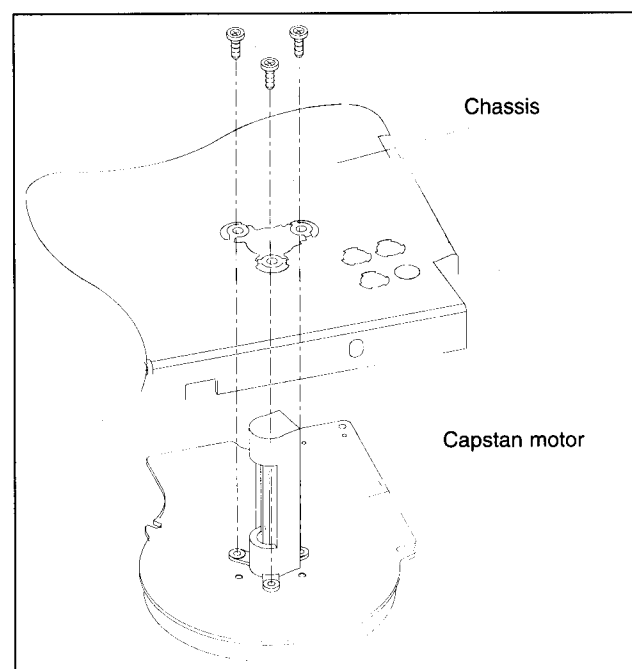

Fig. M19
- Remove the three capstan motor fixing screws (see fig. M19) and withdraw the capstan motor downward from the drive assembly.